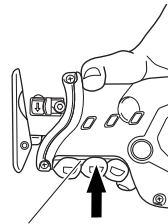

Fig. 13
- (3) You can adjust the base position in three stages. Move the base at an interval of about 15 mm, find the position where the base hooks, and press in the base lever with your fingers. The base is secured when you hear the clicking sound. (Fig. 13)